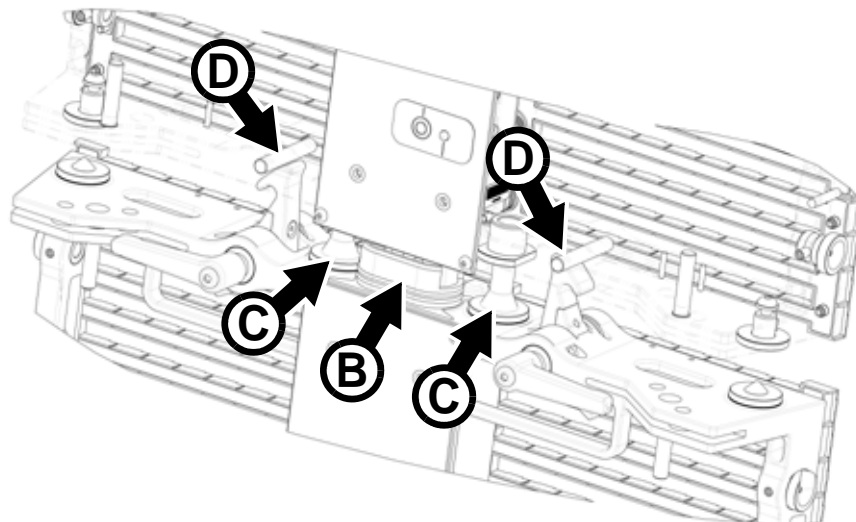

Figure 10: Hooks contact locking posts (cutaway view)
3. See Figure 10. Lift the panel you are installing up to the Header or panel above so that the power and data connector **B** and guide posts **C** engage and the locking hooks in the panel touch the locking posts **D** in the Header or panel above.
Power input and throughput connectors on EC Series panels are integral and engage automatically when panels are installed in columns (see Figure 10 on page 13).